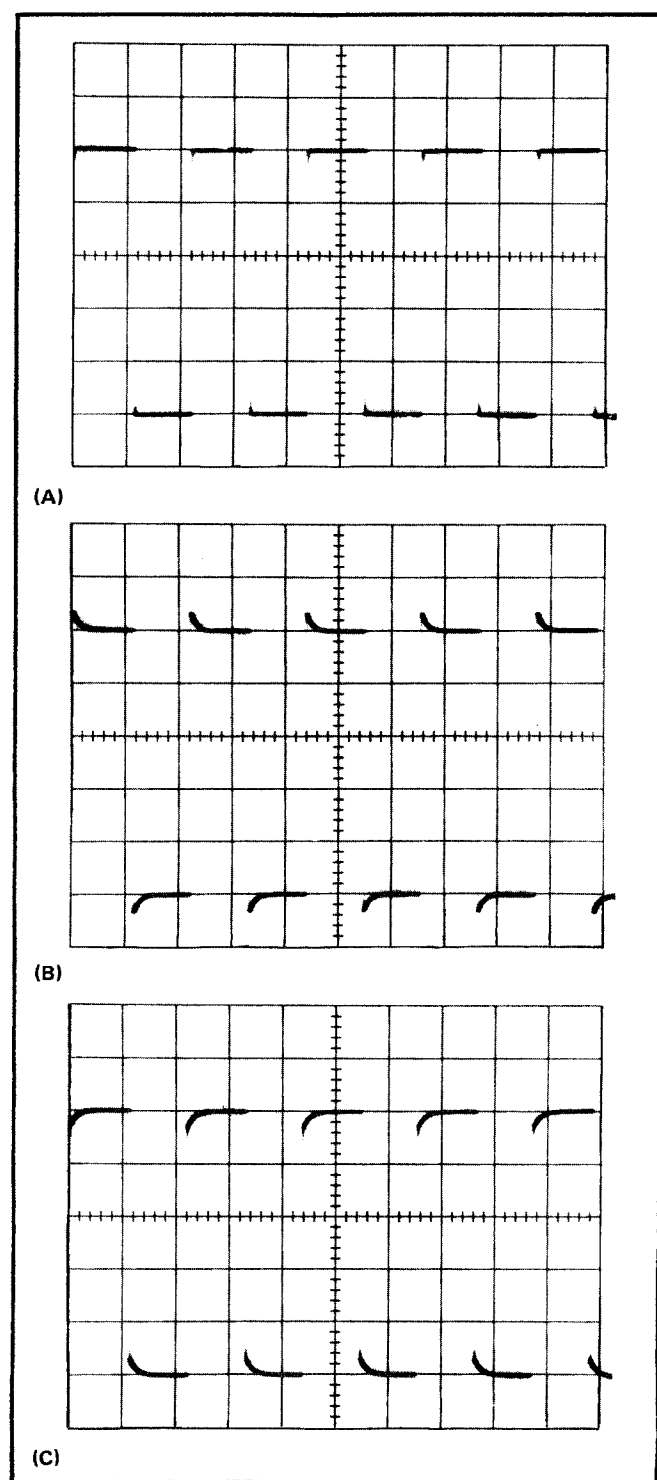

Fig. 5-3. Typical waveform showing (A) Correct adjustment of Input Attenuator Time Constant. (B) and (C) incorrect adjustment.
f. CHECK—The square wave display for flat tops (see Fig. 5-3).
d. CHECK—Each square wave for a flat bottom, using Fig. 5-3 as a guide.